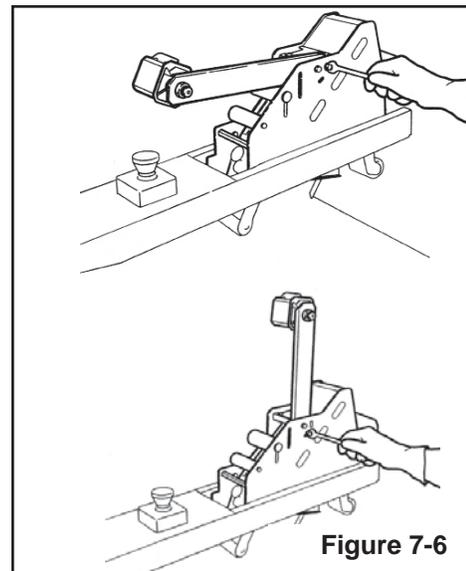

Figure 7-6
3. Ensure that the tape drum bracket assembly (located on the taping head) is mounted vertically (as shown in **Figure 7-6**).